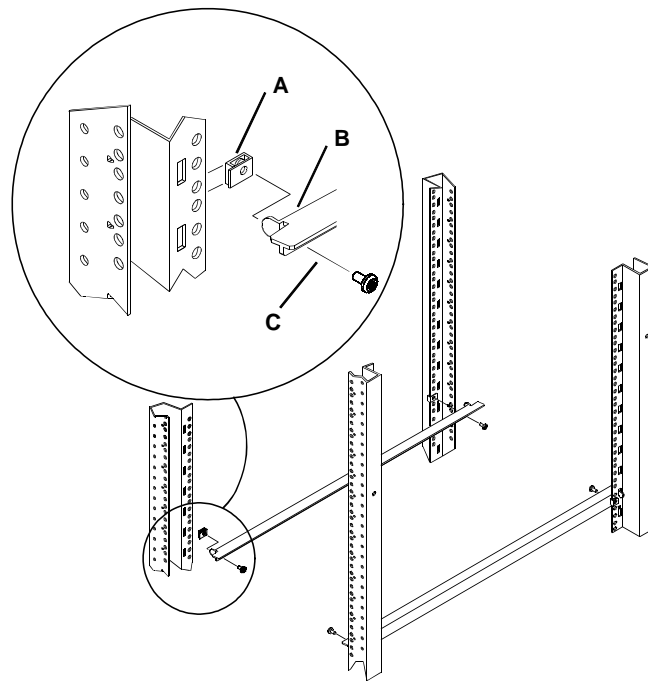

Figure 11. Installing mounting rails for the disk array into the cabinet
- c. Attach the mounting rails to the cabinet as shown (see figure 11).
- Install two clip nuts (A in figure 11) over the two holes in the front and back cabinet columns at the height where the left rail is to be mounted.
- Install the two screws (one on the front column and one on the rear column) to anchor the rail in the cabinet (C in figure 11).